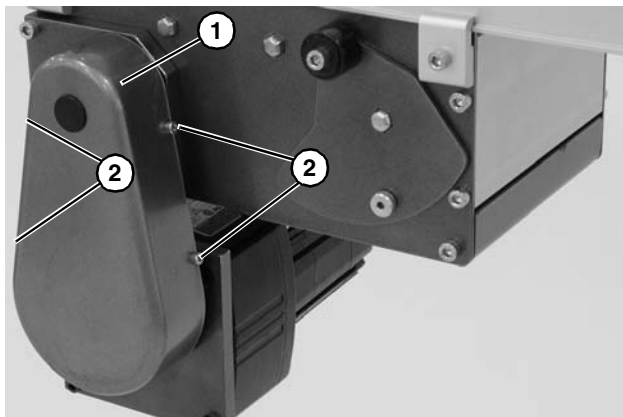

Figure 24
1. Remove four (4) screws (**Figure 24, item 1**) and remove cover (**Figure 24, item 2**).